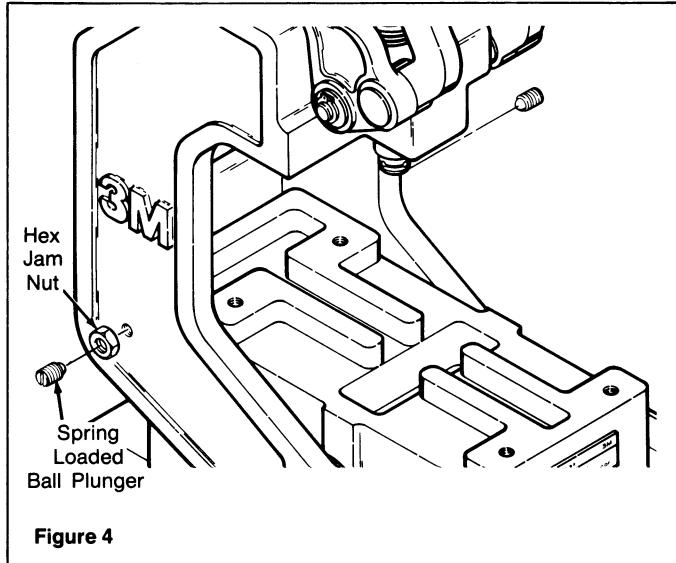

Figure 4
1. The positioning mechanism which keeps the press head assembly upright is a spring-loaded ball plunger (Figure 4) which is factory adjusted to the correct retention pressure. This pressure can be varied if necessary with a simple screwdriver adjustment (clockwise for more pressure; counterclockwise for less.)